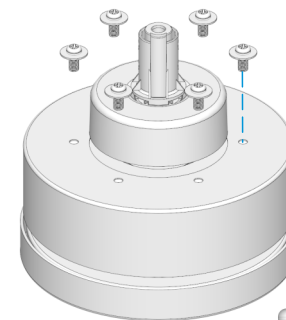

Fig. 4.1
4.1 Remove the blade screws from the motor head, as illustrated in Fig. 4.1.